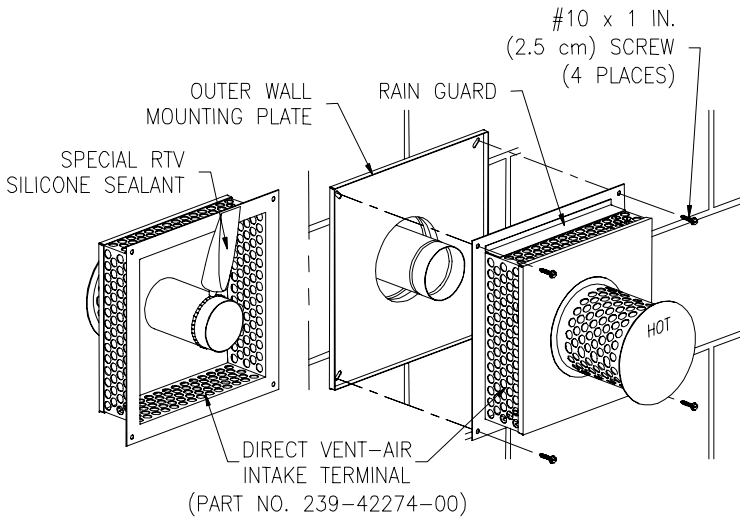

Figure 17
8. Using the supplied RTV silicone sealant, apply a bead one (1) inch (2.5 cm) from the end of the four (4) inch (10.2 cm) diameter tube that is part of the vent-air intake terminal. Slide the direct vent-air intake terminal into the four (4) inch (10.2 cm) diameter telescopic tube that extends through the wall and position it so it is flush with the outer wall mount plate. Make sure that the rain guard and the word "HOT" on the end of the direct vent-air intake terminal are oriented properly. Secure the direct vent-air intake terminal to the outer wall mount plate and wall with four (4) #10 x 1 inch screws (supplied). (See Figure 17). Note: Certain construction of walls may require the use of different type of anchoring means than supplied. **DO NOT** modify the direct vent-air intake terminal or outer wall mount plate